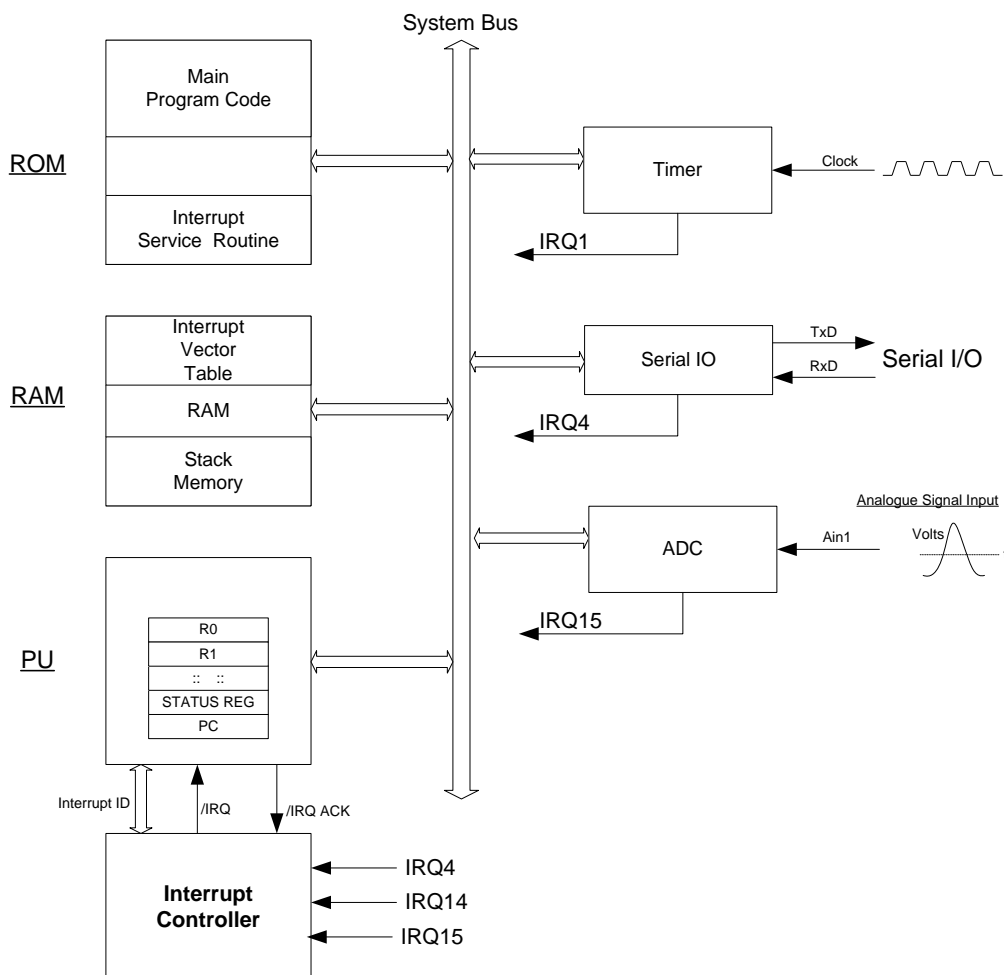

Figure 11 Multiple Interrupts – system components.
To resolve these issues processor system hardware enlists some additional resources in the form of an INTERRUPT VECTOR TABLE, STACK MEMORY and INTERRUPT CONTROLLER. These support elements are shown in Figure 11 and their role is described as follows:
Figure 11. The diagram shows the system memory, a processor and an Analogue-to-Digital Converter (ADC) interface that generates an interrupt request when it has a valid sample value. System memory is divided areas for code and data and it is assumed that the processor is running a task, identified as the 'Main Program Code', in
Figure 11. Additionally, it is assumed that the processor global Interrupt Enable (IE) status flag is enabled so that the system is ready to respond to interrupt requests.